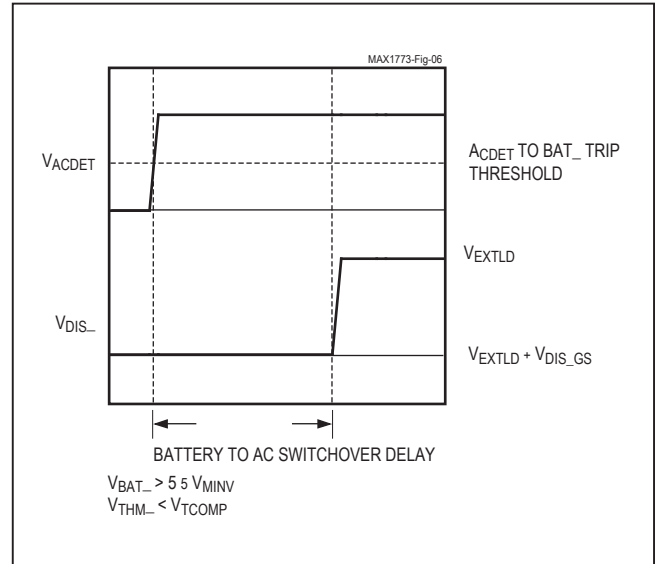

Figure 6. Battery to AC Switchover Delay
**Note 10:** Battery to AC Switchover Delay begins when  $V_{ACDET}$  rises above its threshold and ends when  $V_{DIS\_}$  of the battery being switched from has begun to rise (Figure 6).